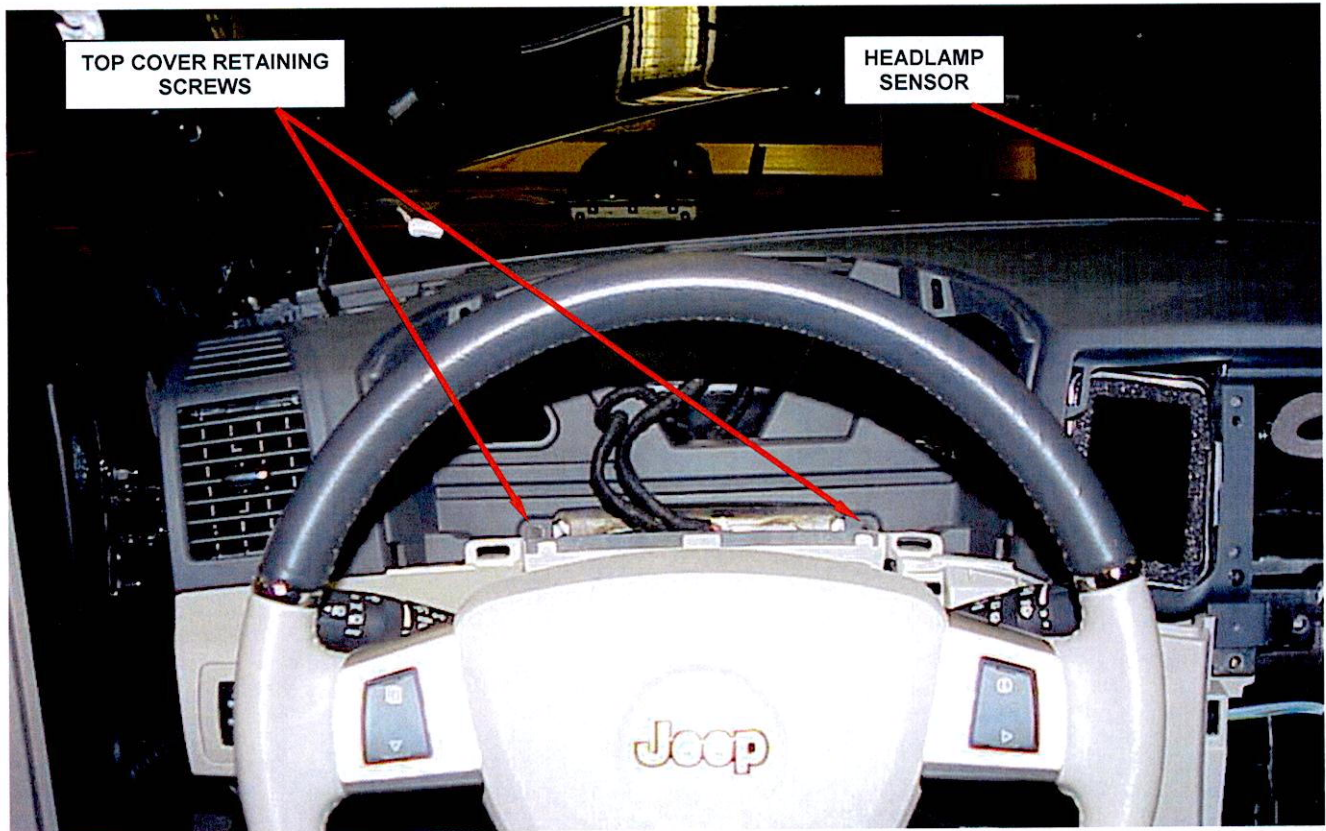

Figure 6 - Retaining Screws at Back of Instrument Panel Cluster Opening
20. Remove the two top cover-to-instrument panel retaining screws located at the back of the instrument panel cluster opening (Figure 6).
26. **Vehicles equipped with headlamp sensor**, remove and disconnect the headlamp sensor located in the center of the top cover (Figure 6).
30. **Vehicles equipped with headlamp sensor**, Connect the wiring to the headlamp sensor located in the center of the top cover and then install the sensor (Figure 6).